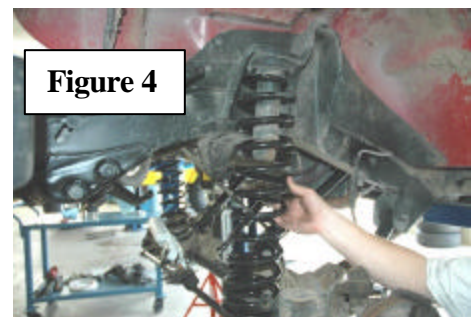

Figure 4
13. Install the front coil spring. A coil spring or strut compressor will be needed for the new coil spring installation. Compress the new coil spring and install the new spring into the upper and lower spring pockets and carefully remove the compressor. Make sure the coil is seated properly in the coil seat by rotating the spring so the pig tail end fits in the spring pocket. Install the coil spring clamp if factory equipped and torque the spring clip bolt to 16ft.-lbs. **See Figure 4.**